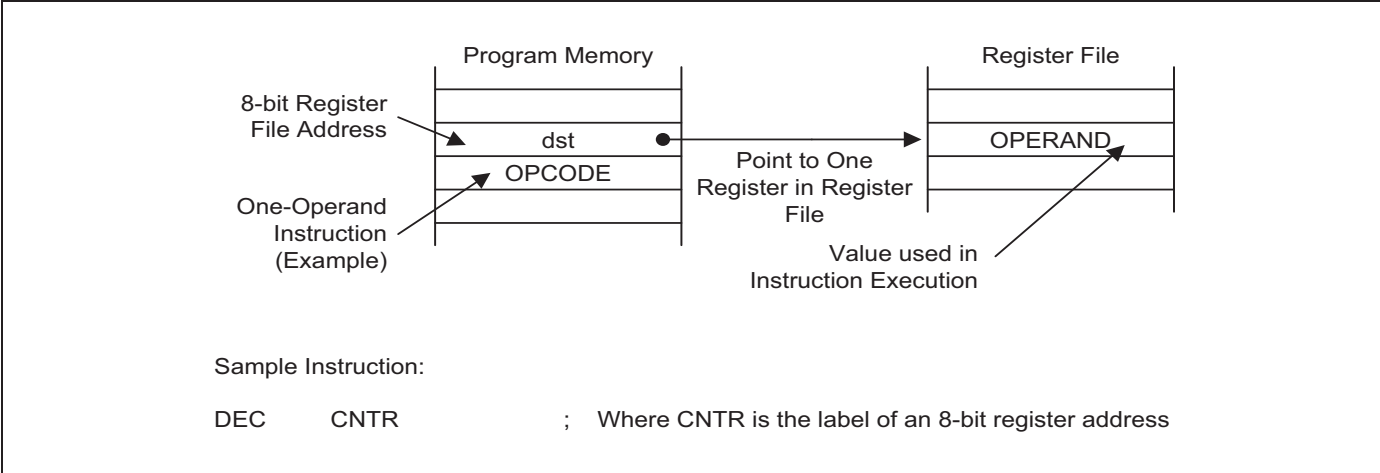

Figure 3-1 Register Addressing
- Register (R)
- Indirect Register (IR)
- Indexed (X)
- Direct Address (DA)
- Indirect Address (IA)
- Relative Address (RA)
- Immediate (IM)
In Register addressing mode (R), the operand value is the content of a specified register or register pair (Refer to Figure 3-1 for more information).
Figure 3-1 illustrates the register addressing.